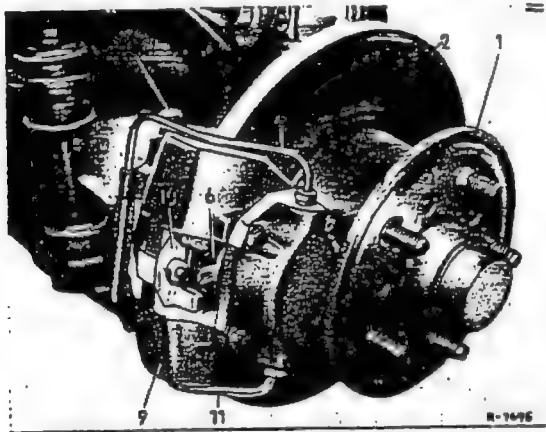

Fig. 42-10/6
1. Unscrew the hexagon screw for fastening the stirrup (10) and remove together with the stirrup (Fig. 42-10/7).